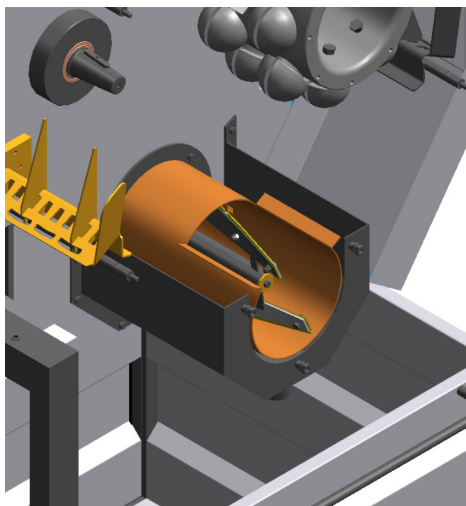

Figure 11
**D) FILTER BRUSH AND FILTER RETAINER ( Fig. 11, 12 and 13 ) :** The filter brush should be changed every three months Ref. 200.0098.002 . The wear on this part depends on how the machine is used. Therefore, this amount of time refers to average use.